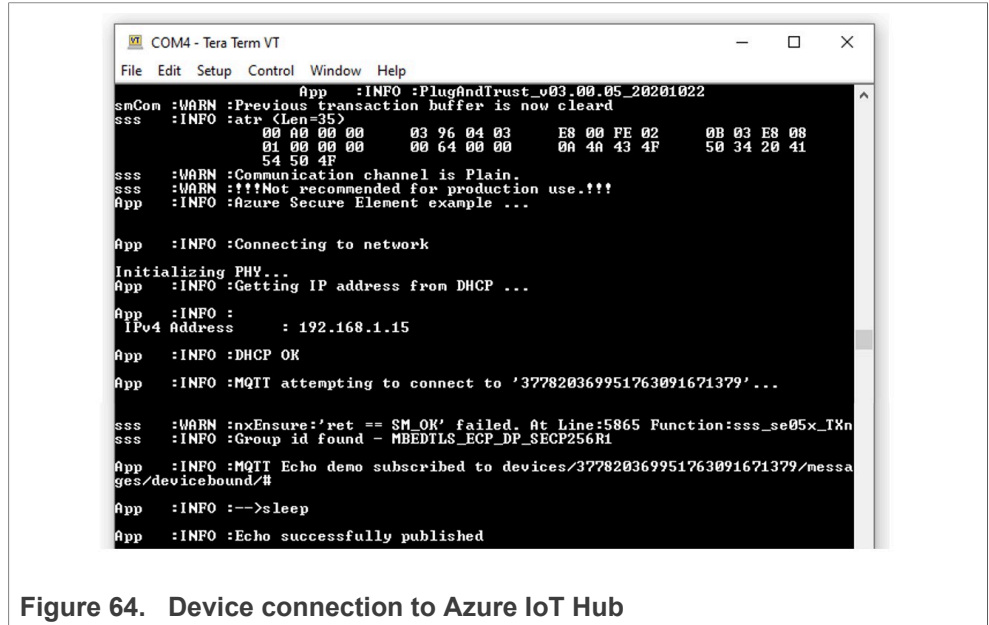

Figure 64. Device connection to Azure IoT Hub
- a. Checking the TeraTerm logs as shown in Figure 64.